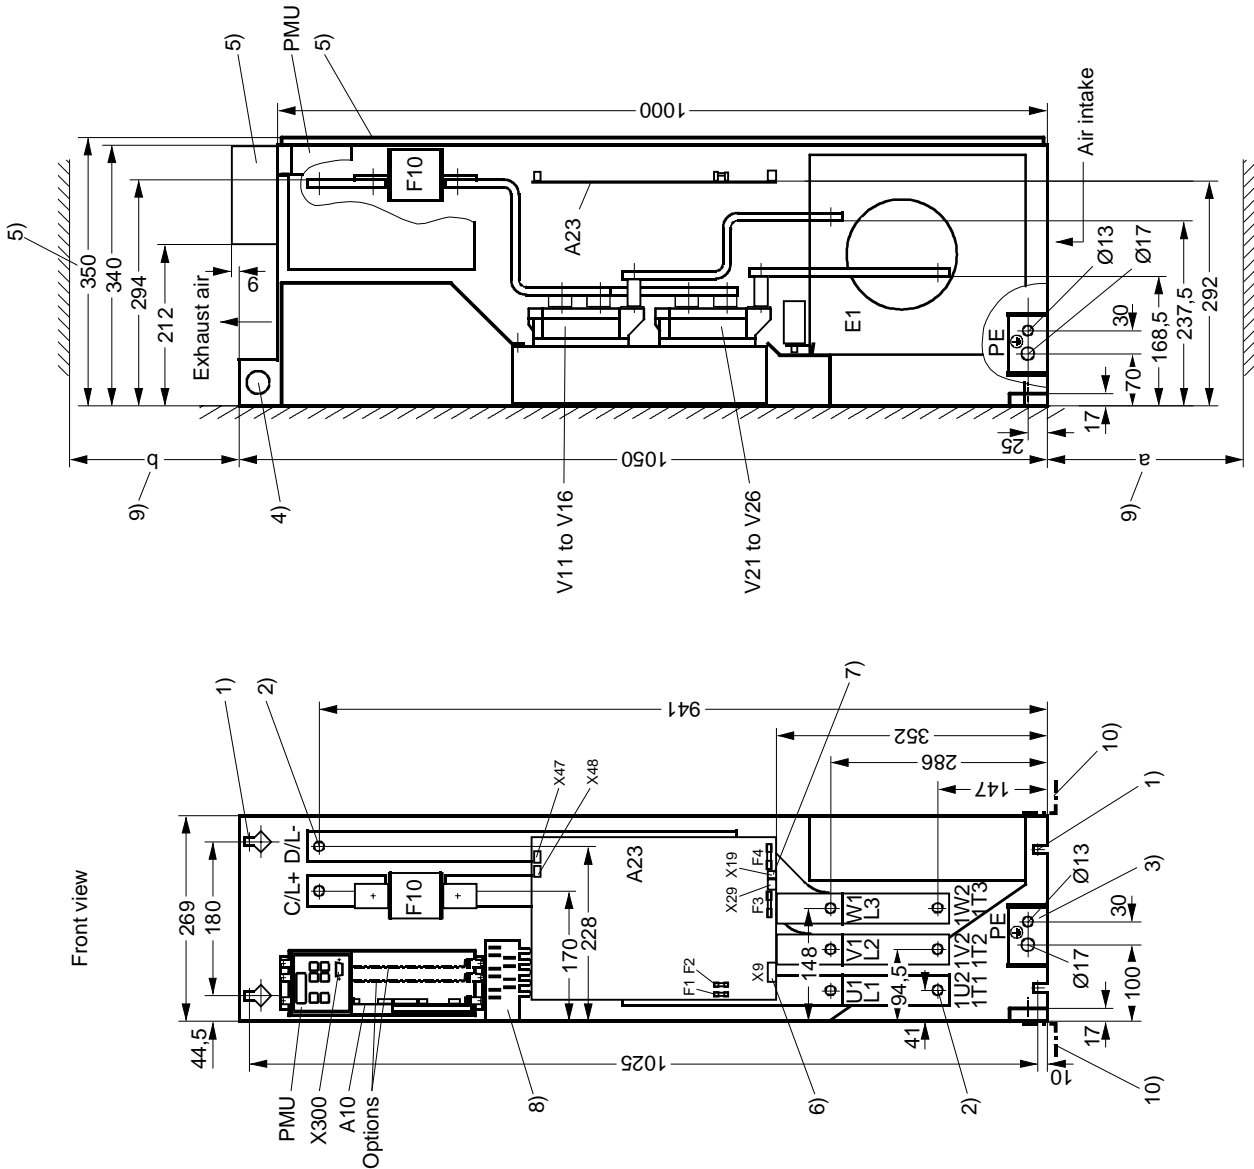

Figure 2.3 Dimension drawing, size E
- ◆ dimension drawing (Figure 2.3 for size E)